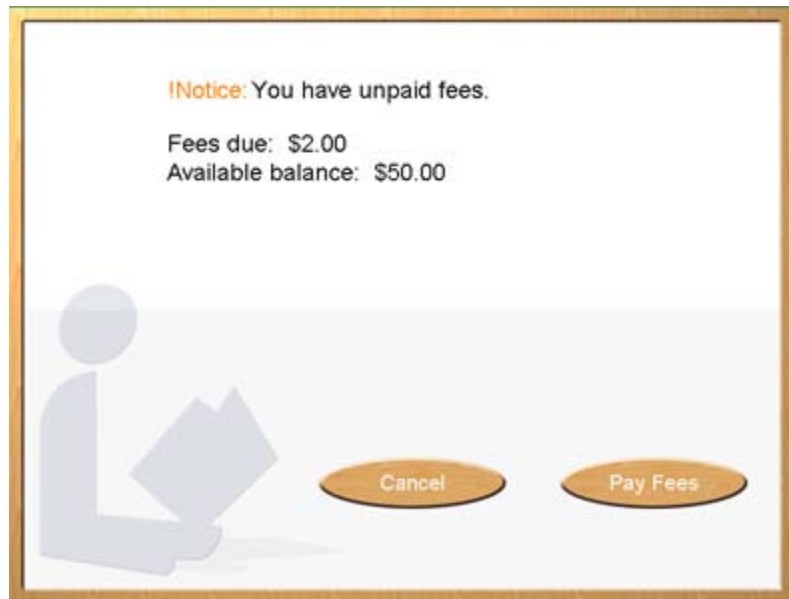

Figure 11.1 Outstanding fee message
- 1 Scan your Patron Card. If ILS determines that you have outstanding fees, it displays the message shown in Figure 11.1.